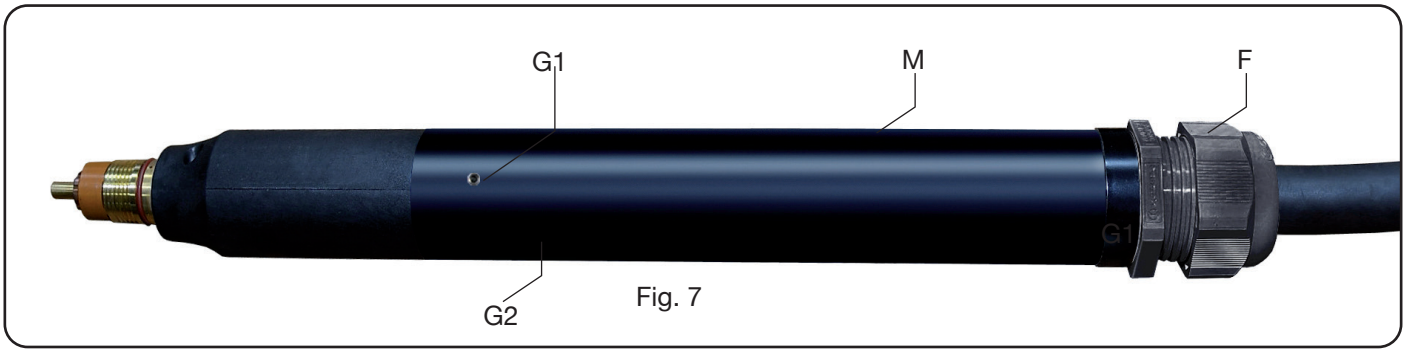

Fig. 7
- Unscrew the cable gland **F** Fig.7;
- Remove cable gland **F** Fig.7.